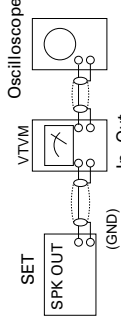

Figure 1-6
- 3) The cassette deck is connections as shown in figure 1-6.